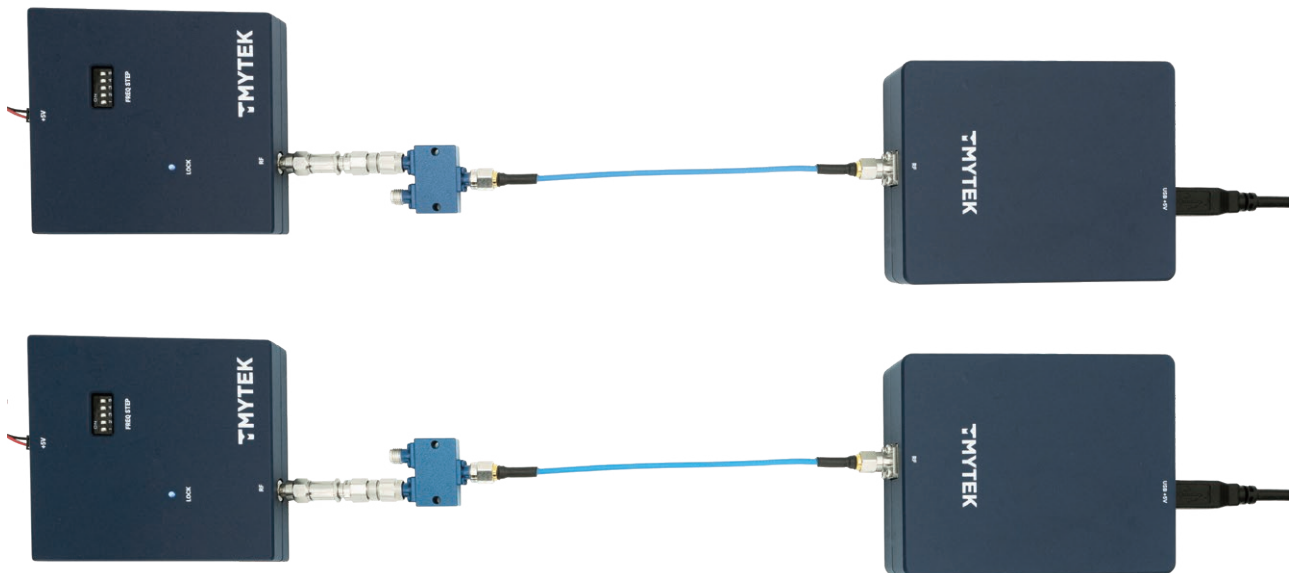

Figure 7. PLO + Attenuator + Adapter + Power Combiner + Cable
- d. Reverse the power splitter into a power combiner, monitor and record the power readout as shown in Figure 7. Same as above, you need to unplug and replug the cable into the other port to monitor and record the readout as well.